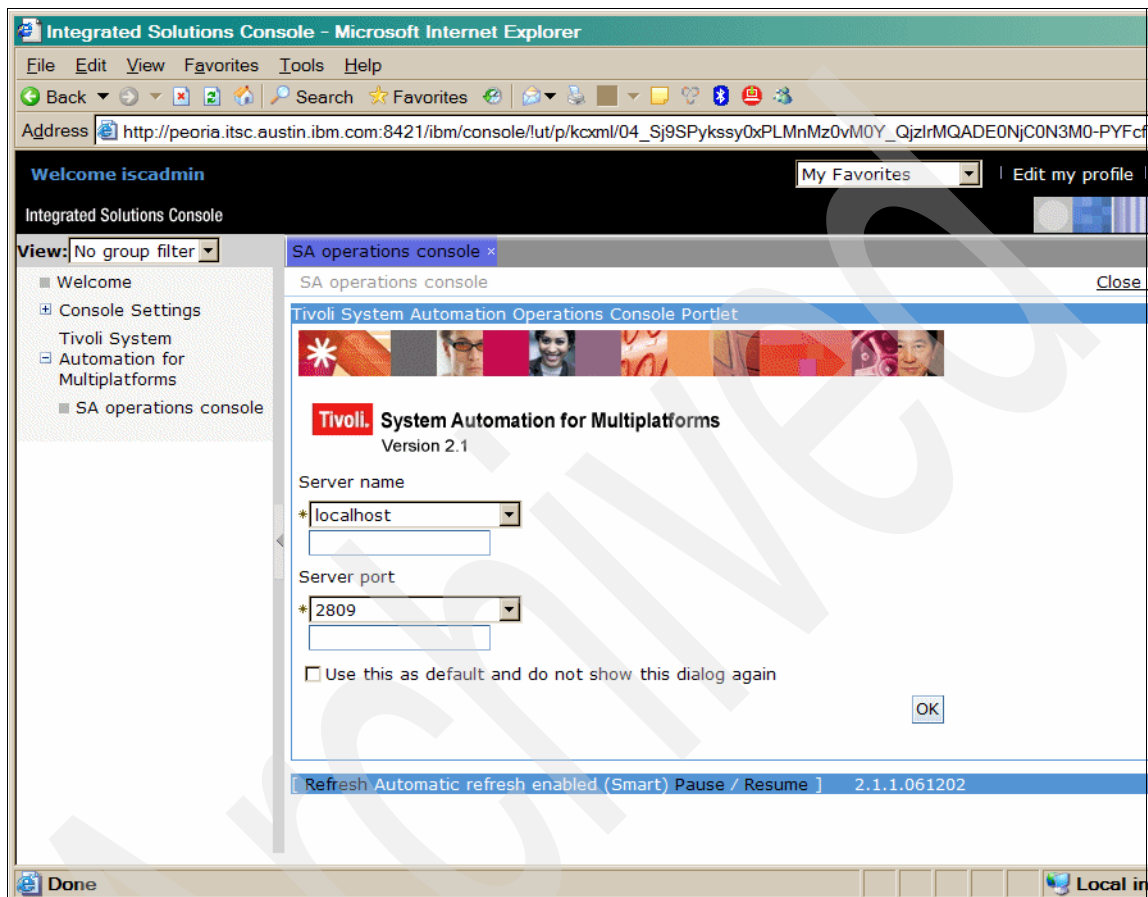

Figure 4-4 Selecting servers
- e. Click on the + sign beside Tivoli System Automation for Multiplatforms (on the left) item and select the **SA operations console** link. You should see the screen in Figure 4-4.